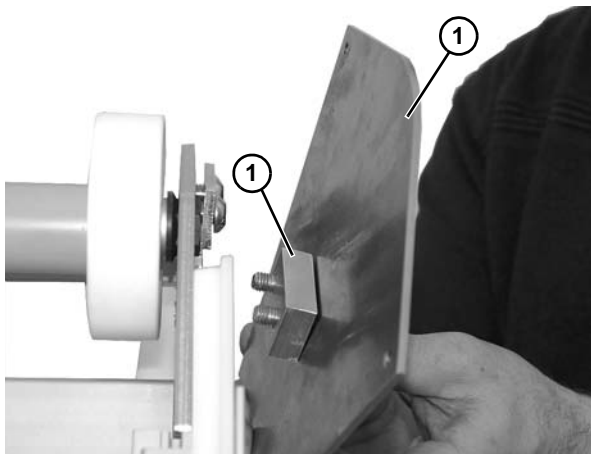

Figure 110
7. Remove cover plate (**Figure 110, item 1**), along with two socket head screws and spacer block (**Figure 110, item 2**). Repeat on other side.